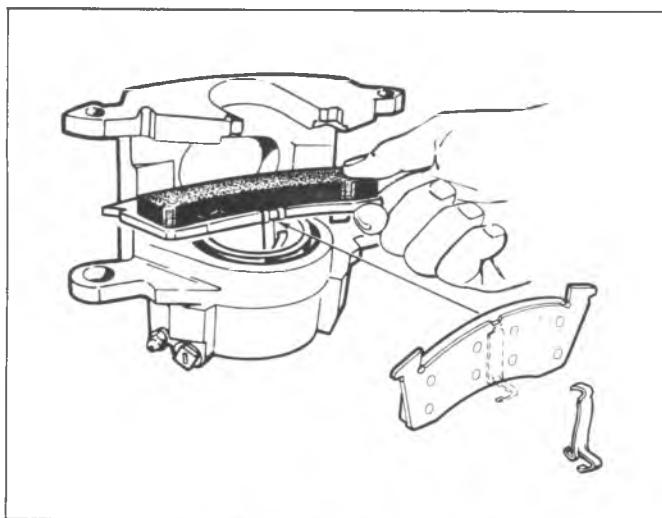

Fig. 57--Installing Support Spring
4. Install the shoe support spring and the "inboard" shoe in the center of the piston cavity as shown in Figure 57.